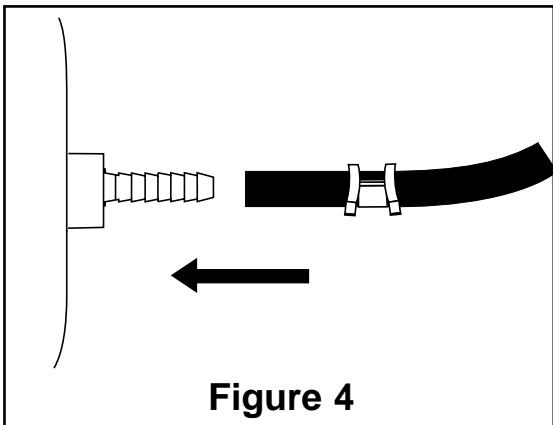

Figure 4
- G. Insert air line through spring seat, protector and slide on air line clamp (Figure 4).
- H. Push the air line onto the barbed cylinder stem, covering all the barbs (Figure 4).
C. Insert air line through spring seat, protector and slide on air line clamp (Figure 4).
D. Push the air line onto the barbed cylinder stem, covering all the barbs (Figure 4).